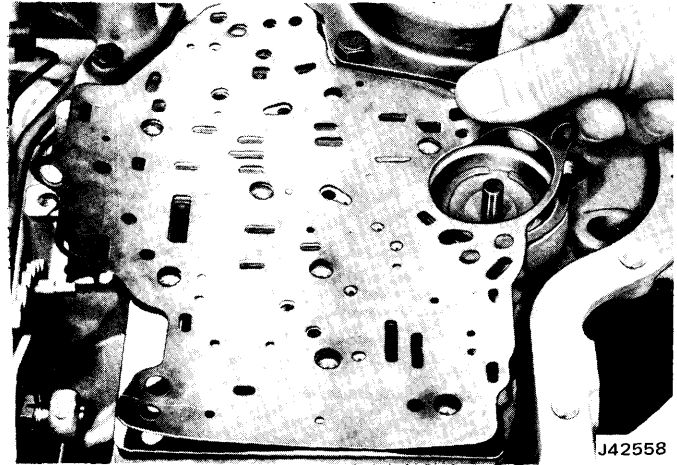

Fig. 7-138 Installing Control Valve Spacer Gasket
(6) Install control valve spacer plate to case gasket (this gasket has extension for detent solenoid and has a "C" mark near front servo location).
(7) Install control valve spacer plate and spacer plate-to-control valve gasket (fig. 7-138).